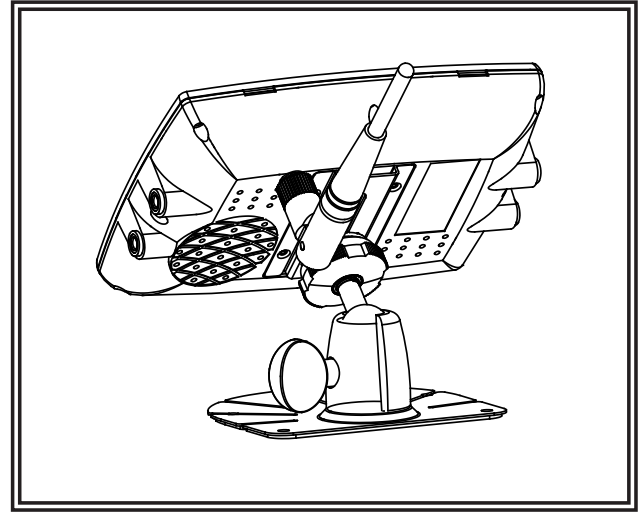

Figure 7
2. Fix the monitor to the base support and adjust the view angle. (Figure 7)